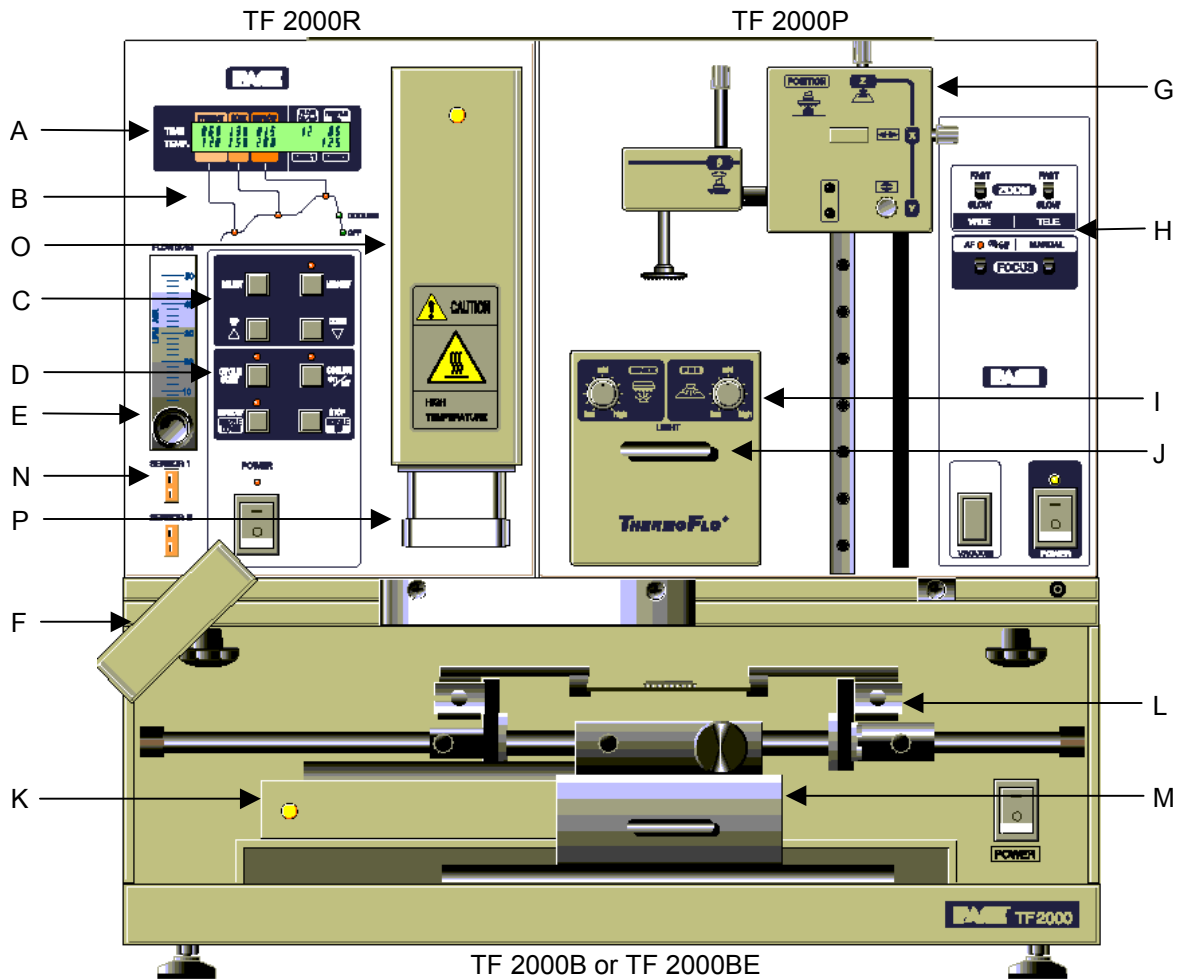

Figure 1: TF 2000 BGA/CSP Rework Station
Please refer to Figure 1.
- 1-2 Place the TF 2000R and TF 2000P on the base as indicated in Figure 1.
- 1-3 Secure the TF 2000R and TF 2000P by following the directions in the box containing the base unit. Refer to Figure 1.